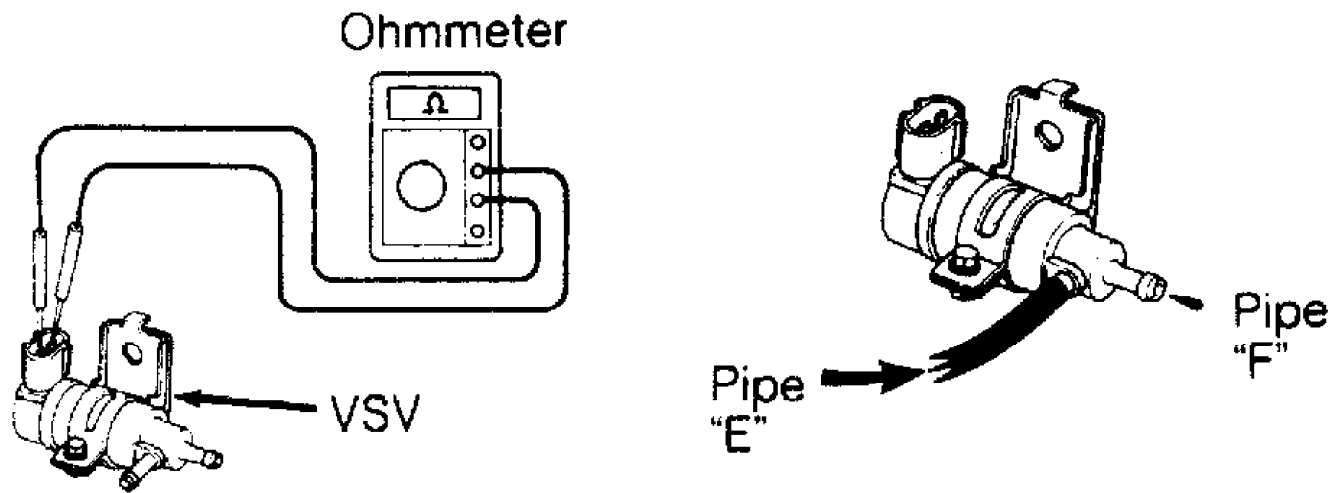

Fig. 71: Checking Continuity On VSV
- 1) Using an ohmmeter, check continuity between both terminals of turbocharging pressure VSV connector. See Fig. 71. Replace VSV if no continuity exists.